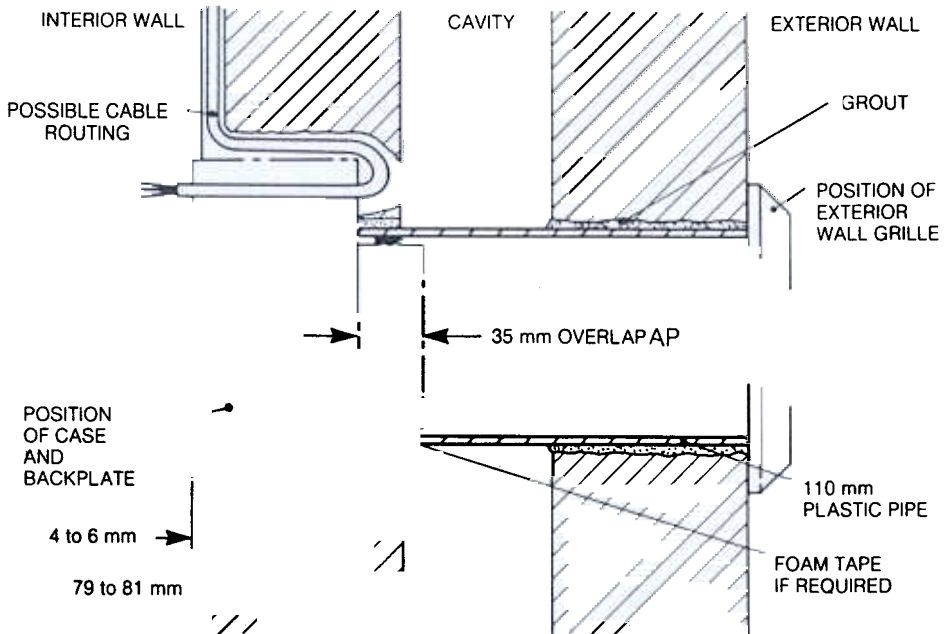

Fig. 7
The front face of the case should protrude by 4 to 6 mm from the wall surface if the bezel is to be used (see Fig. 7).
**6.4** Install the electricity supply cables (see Section 4 and Fig. 7), allowing 250 mm to protrude for making connections within the case.